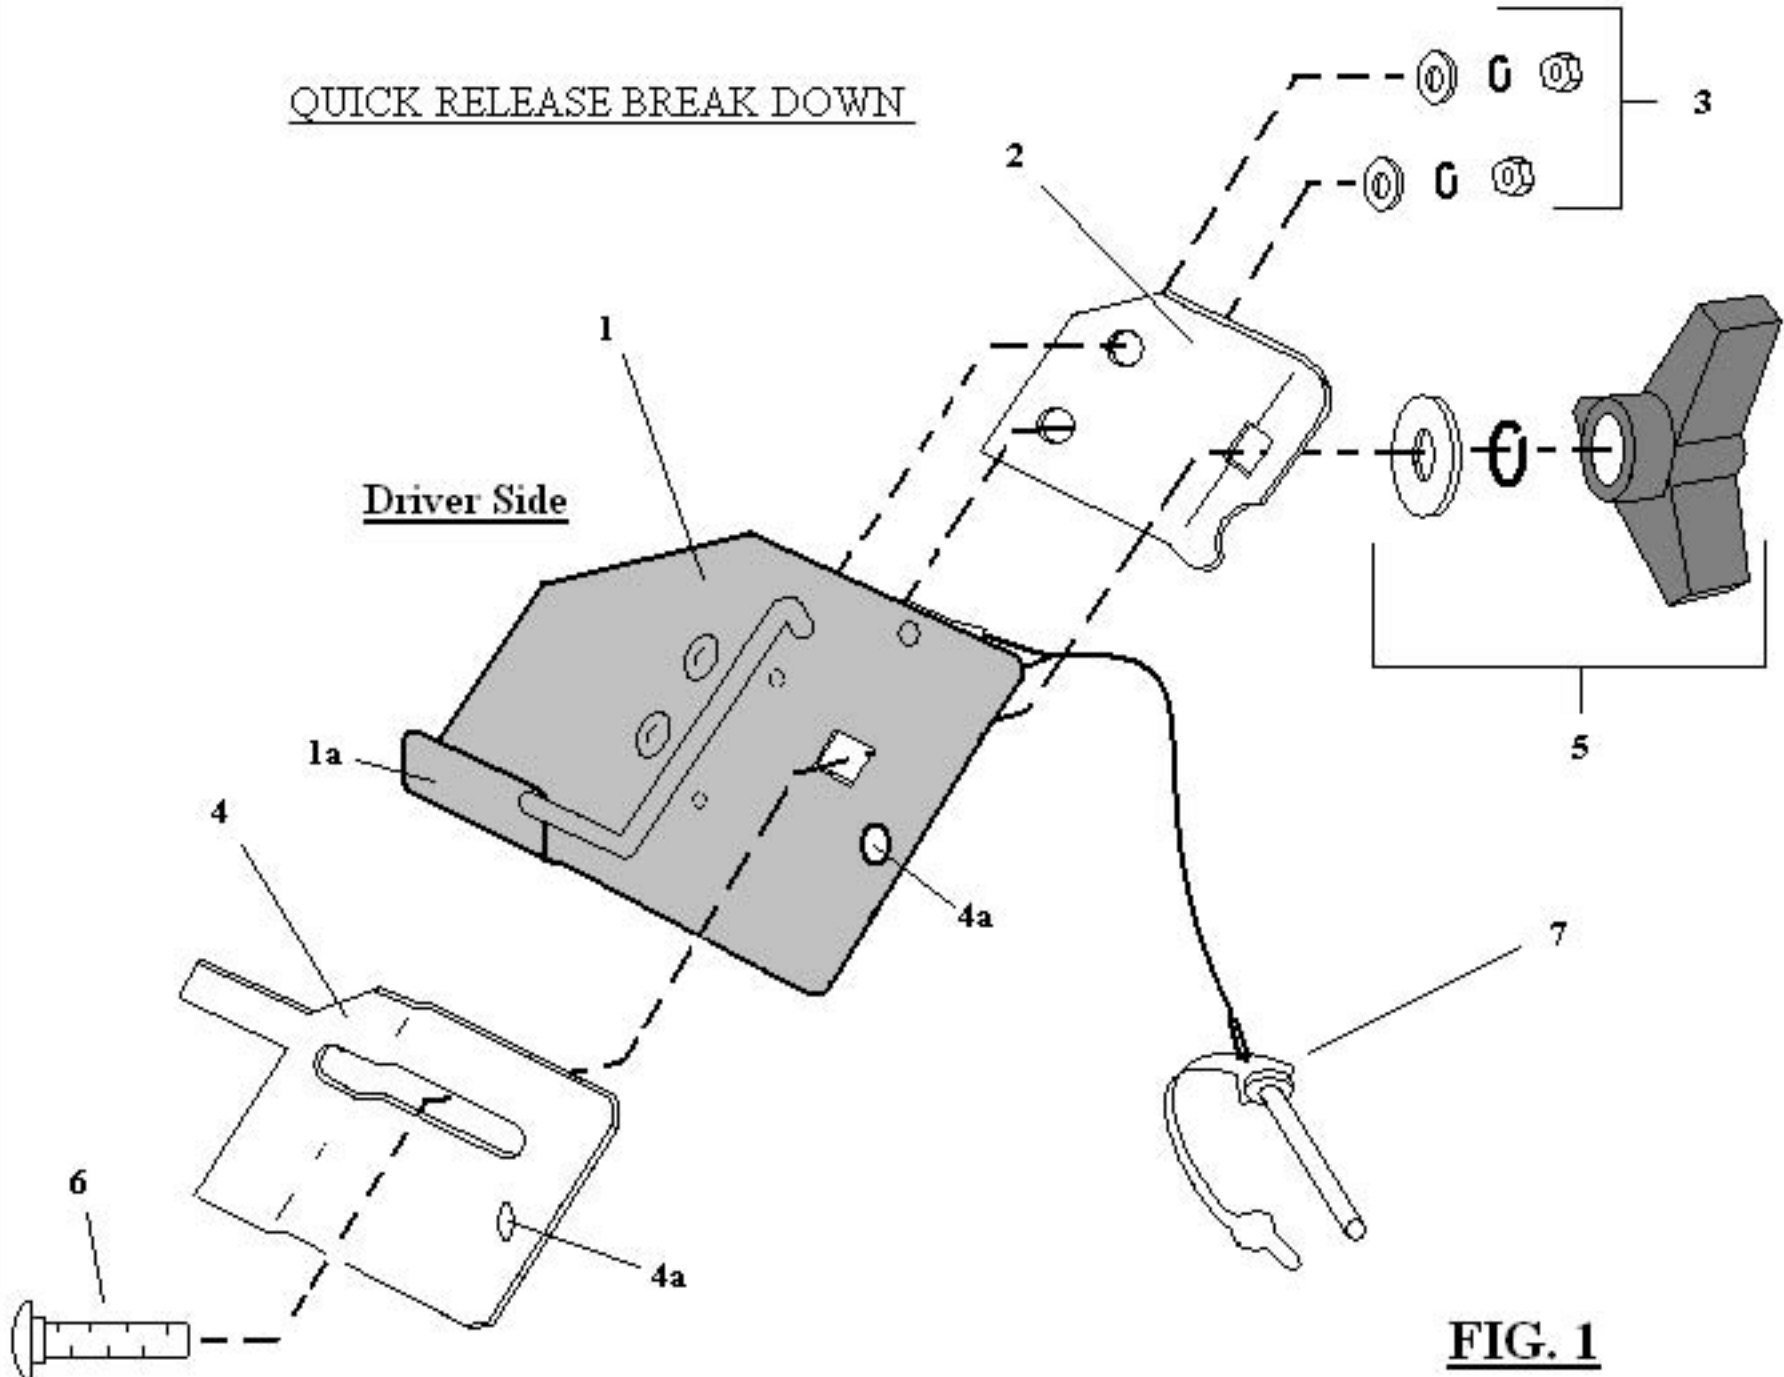

FIG. 1
- 5- Refer to page 3 Fig. 1 and disassemble your Driver side "Quick Release" assembly as shown to prepare for assembly onto light bar.